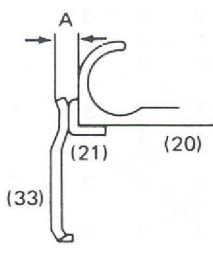

Fig. 2	CONTACTOR SIZE		A
2. Check that the square projection on the lower end of the movable contact (33) is seated in the recess in the finger board (32).
3. Make sure that the stationary contact tip is against the stationary contact bracket located on the blowout coil assembly. (Fig. 2).
The contact tips should be replaced when the contacts are worn down to dimensions shown in Figure 2.